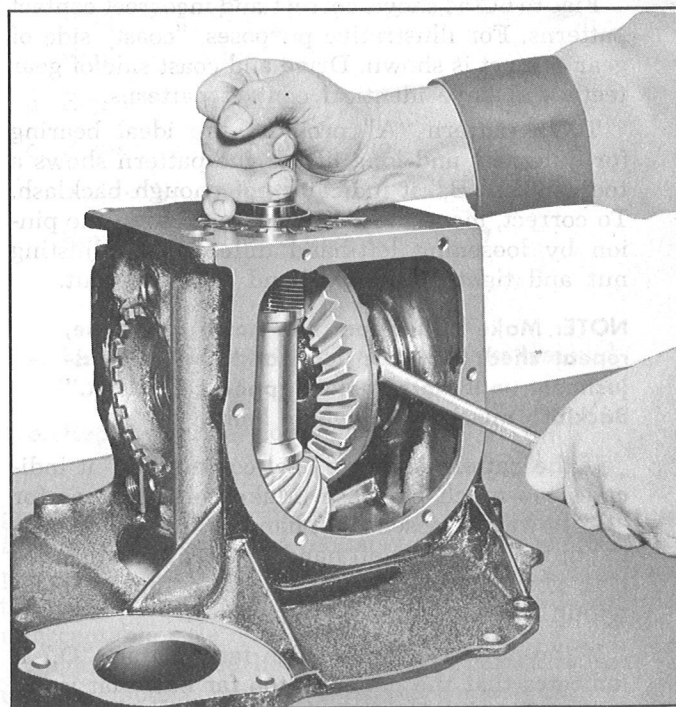

Fig. 6C-52—Developing Contact Pattern
3. While firmly holding the pinion with a rag to form a friction brake, turn the ring gear back and forth with a wrench (fig. 6C-52) on the ring gear mounting bolts until a definite contact pattern is formed on the pinion.